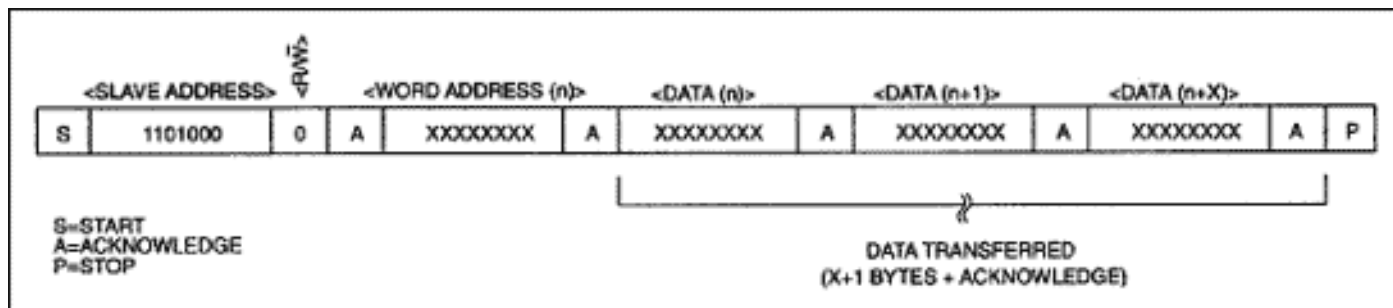

Figure 3. Data write—slave receiver mode.
1. **Slave receiver mode (DS1307 write mode):** Serial data and clock are received through SDA and SCL. After each byte is received, an acknowledge bit is transmitted. START and STOP conditions are recognized as the beginning and end of a serial transfer. Address recognition is performed by hardware after reception of the slave address and direction bit (see **Figure 3**). The address byte is the first byte received after the start condition is generated by the master. The address byte contains the 7-bit DS1307 address, which is 1101000, followed by the direction bit (R/active-low W) which for a write is a 0. After receiving and decoding the address byte, the DS1307 outputs an acknowledge on the SDA line. After the DS1307 acknowledges the slave address + write bit, the master transmits a register address to the DS1307. This will set the register pointer on the DS1307. The master will then begin transmitting each byte of data with the DS1307 acknowledging each byte received. The master will generate a stop condition to terminate the data write.